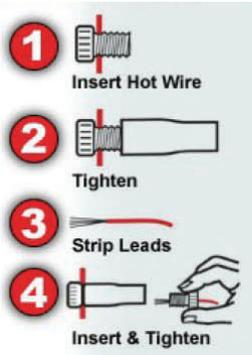
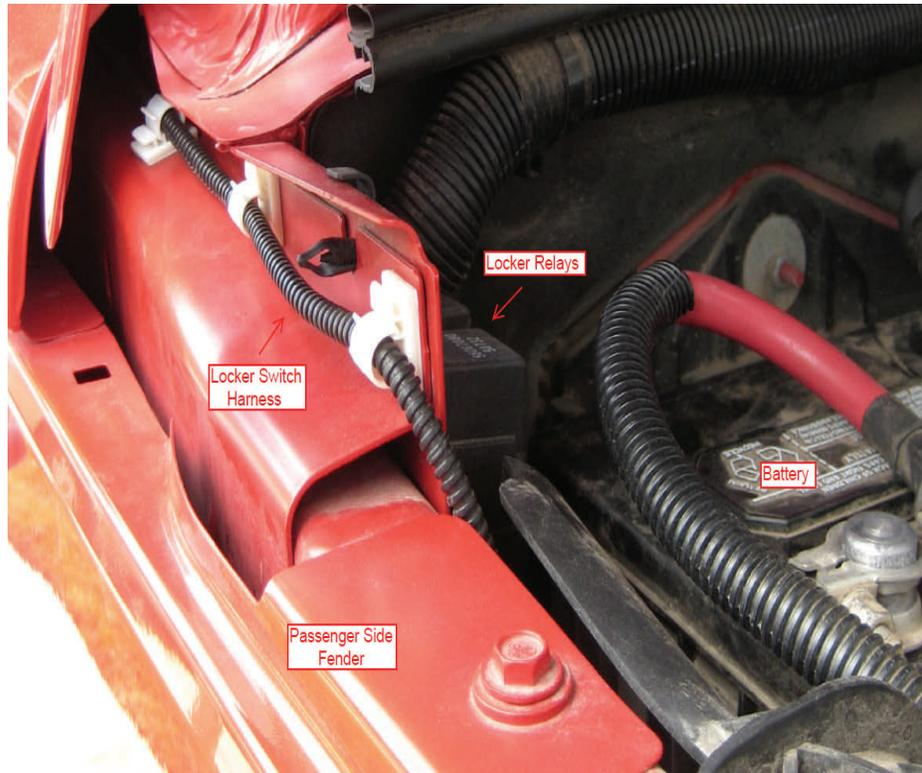
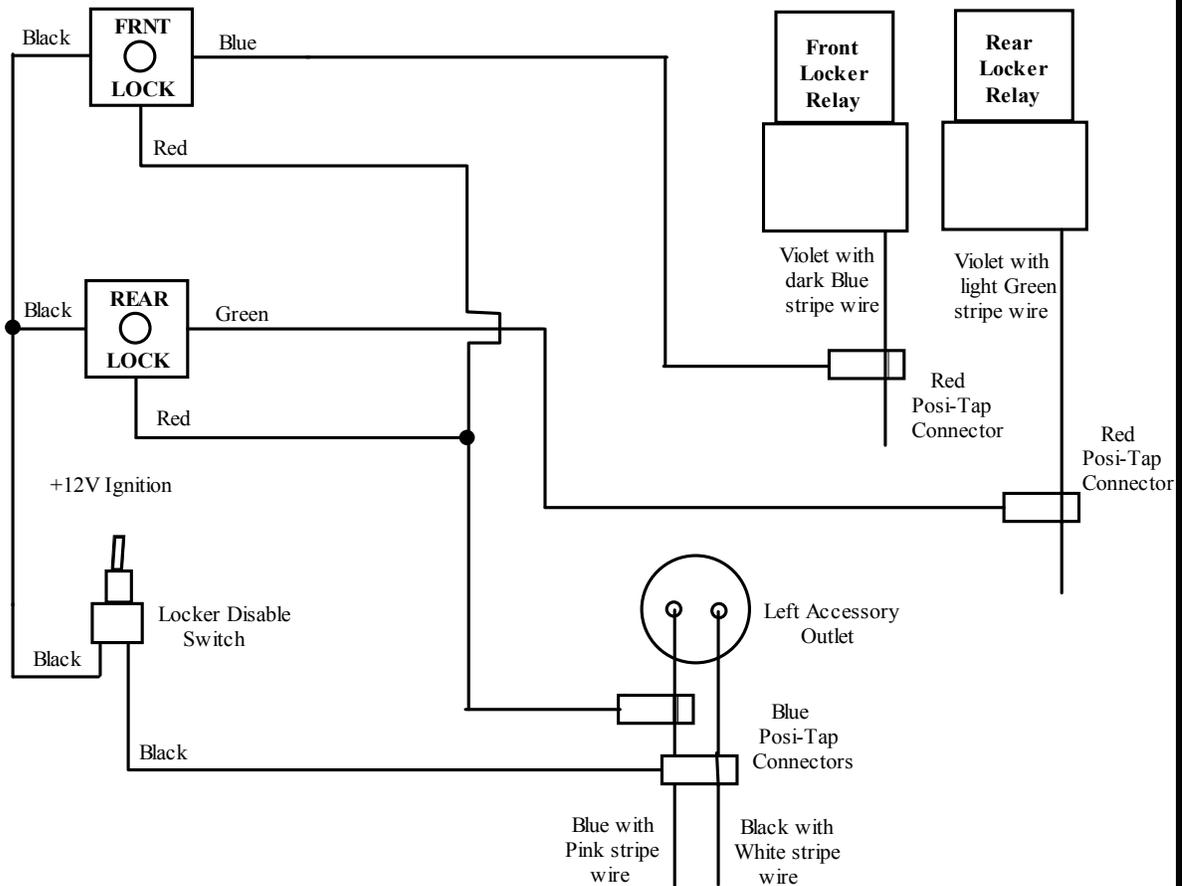

Figure 1
Figure 2
Figure 6.
2. Refer to the wiring diagram on the last page for the installation, figure 6. Remove the locker relay assembly from the fender and locate the violet with dark blue stripe wire coming out of the front locker relay socket, and the violet with light green stripe wire coming out of the rear locker relay socket. See figure 2. Connect a red Posi-Tap connector to each violet wire. Do not cut the violet wires, insert them into the notch on the Posi-Tap connector as shown in figure 1. The wires from the locker switches will be inserted into the Posi-Tap connectors once the switches have been mounted and the harness routed through the fire wall.
9. Connect the black wires from the locker switches to one of the black locker disable wires using a crimp terminal. Connect the other black locker disable switch wire to the black with white stripe wire (ground) on the left accessory outlet using a blue Posi-Tap connector. See figure 1. *Be careful when routing the wires, not to interfere with the climate controls.*
10. Route the two red wires from the locker switches to the left accessory outlet and connect to the blue with pink stripe wire (+12V) using a blue Posi-Tap connector. See figure 1. *Be careful when routing the wires, not to interfere with the climate controls.*
15. Install the relay assembly back onto the fender. Use the supplied cable clamps to secure the wire loom. Use the supplied wire ties to properly secure all wires. See figure 2.